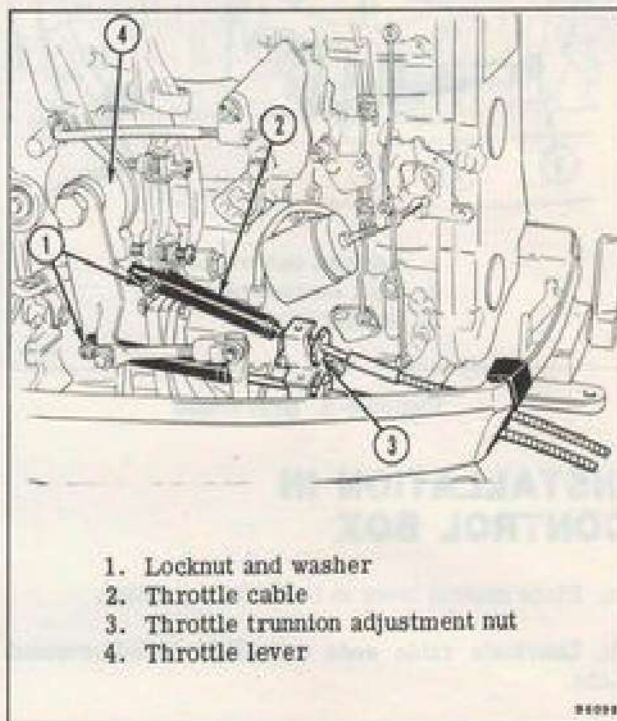

Figure 8-13. Installing Throttle Cable
h. Position throttle cable in notch in anchor block. Turn trunnion adjustment nut until hole in casing guide is in line with pin on throttle lever. (Flat on casing guide must face lever.) Attach casing guide to pin using washer and locknut supplied with engine. See Figure 8-13.